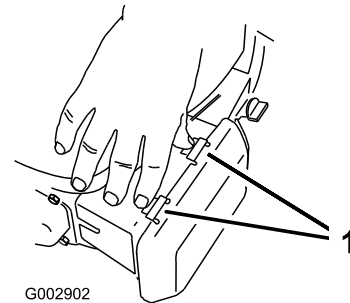

Figure 36
1. Press down on the latch tabs on top of the air cleaner cover (Figure 36).